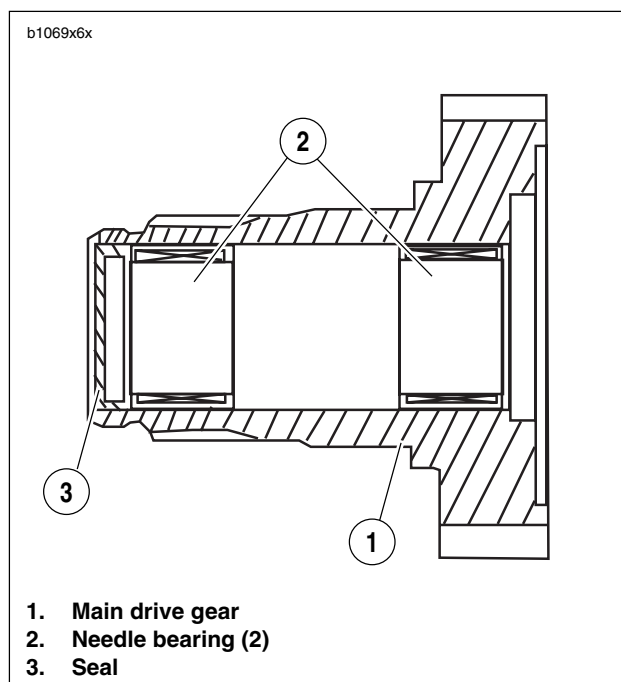
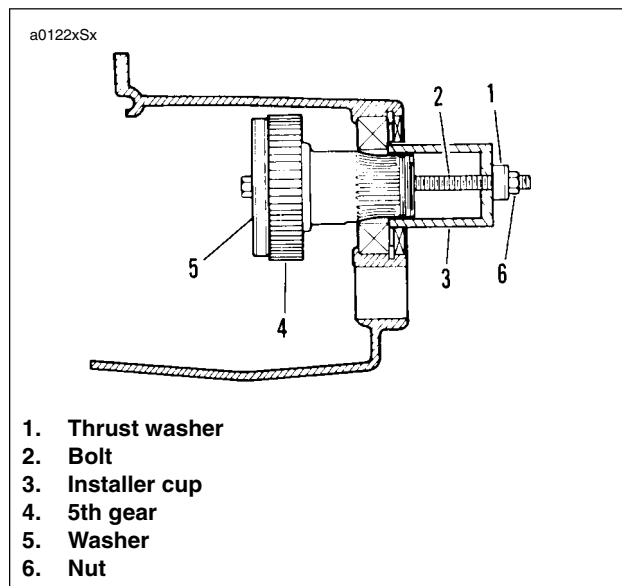

Figure 6-37. Main Drive Gear Assembly
Figure 6-41. Main Drive Gear Installation
3. See Figure 6-37. From inside case tap out seal at end of mainshaft 5th gear. Discard seal.
2. See Figure 6-41. Use MAIN DRIVE GEAR REMOVER AND INSTALLER (Part No. HD-35316-A) for assembly.
- a. Take bolt (2) and place washer (5) followed by main drive gear (4) over end of bolt.
- c. Insert threaded end of bolt (2) through installer cup (3) and thrust washer (1).
- d. Thread nut (6) onto end of bolt (2). Tighten nut (6) until shoulder on gear (4) bottoms against inner race of bearing.
3. See Figure 6-37. Tap in **new** seal (3) at threaded end of 5th gear.